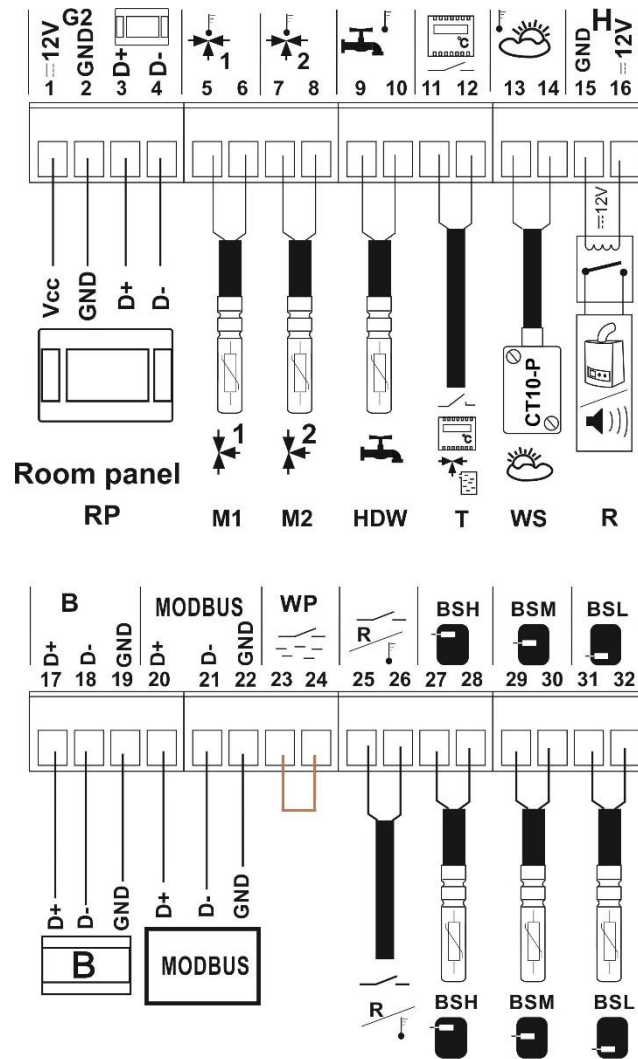

Figure 20. Wiring diagram of sensors and room panel
Connect the appropriate external sensor to the corresponding terminals on the switchboard (see Figure 20) and place the measuring element at the desired location in the heating system. The sensor cable must not be in contact with hot surfaces of the boiler or heating system and must be secured against pulling out.
The sensor is connected by a cable with a minimum cross-section of 0.5 mm2, maximum 25 m long. The polarity of the wires is not important. Connect the free end of the cable to terminals 13-14 (see Figure 20) on the left wall of the controller cabinet.
- connect the Mixer temperature sensor on the left wall of the controller cabinet (see Figure 20)
Connect the thermostat to terminals 11-12 (Figure 20) on the left wall of the controller cabinet. After installation, the room thermostat needs to be enabled in the menu to control the mixed heating circuits: